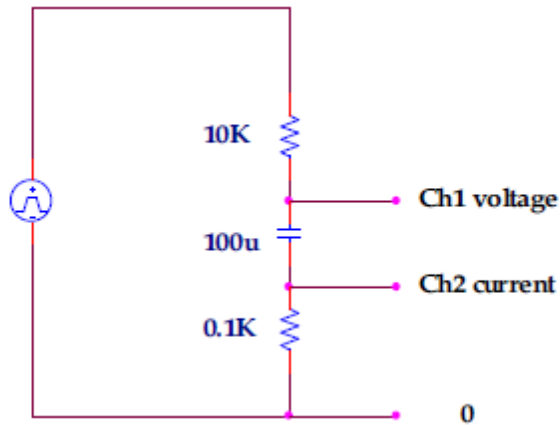

Figure 2
1) Connect the circuit as shown in Figure 2.